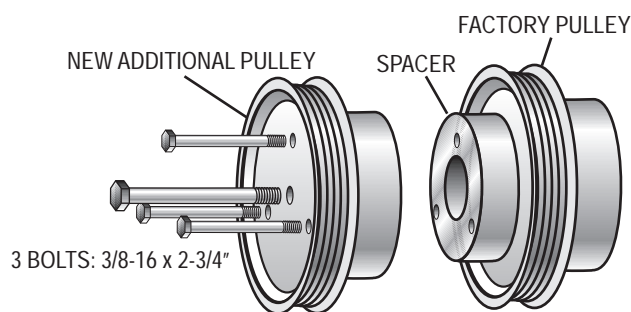

Figure: 4-a
- Place the Vortech provided crank pulley spacer and crank pulley into the stock pulley just removed. (See Figure 4-a.)